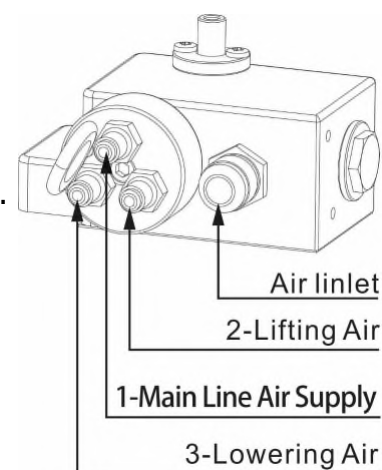

Fig. 2
- ◆ Attach the hoses to the corresponding nipples ( Fig.2 ).